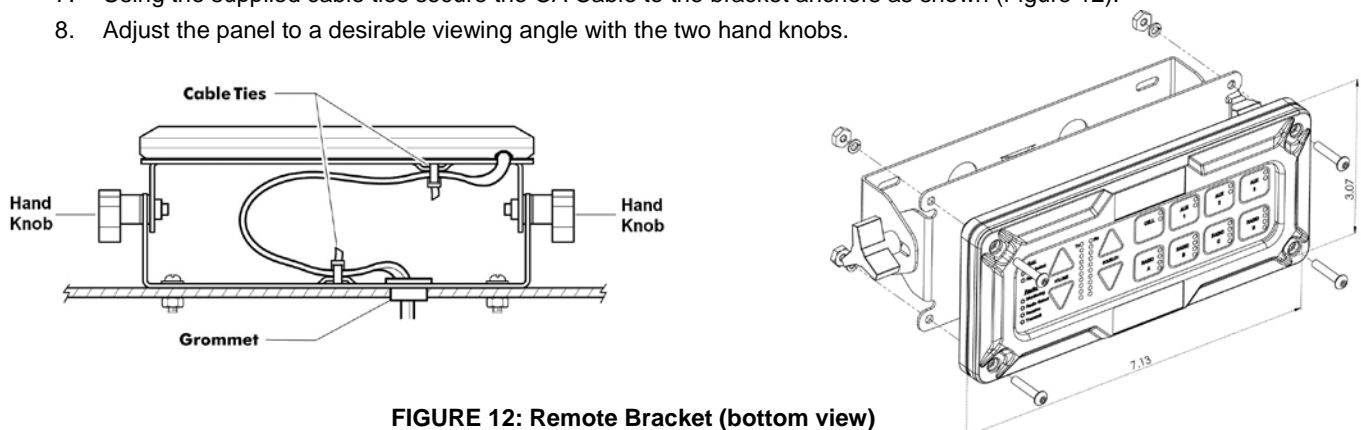

FIGURE 12: Remote Bracket (bottom view)
3. Snap the grommet into the bracket as shown in (Figure 12) and then use the bracket as a template to mark the mounting holes.
4. Drill (4) mounting holes: 7/64" for #6 sheet metal screws or 9/64" for #6 machine screws. Mount the bracket using the included hardware
5. Secure the Remote Head to the front of the bracket with the included machine screws, split washers, and nuts as shown in Figure 12. **Recommended torque : 10 in-lbs**
6. Thread the cable through the bracket assembly as shown in (Figure.12).
7. Using the supplied cable ties secure the CA Cable to the bracket anchors as shown (Figure 12).